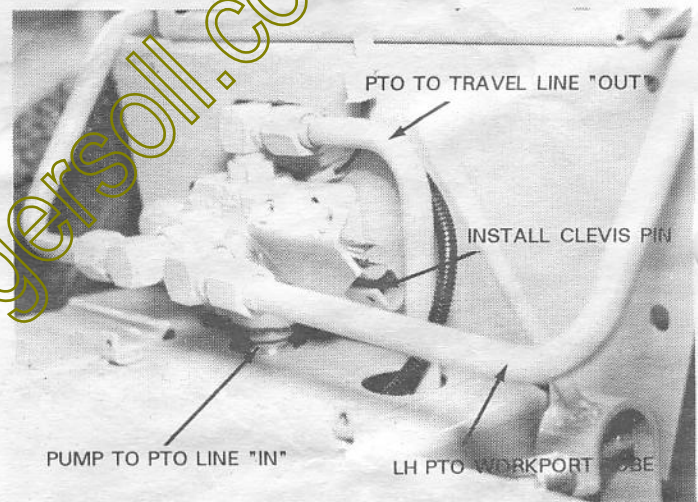
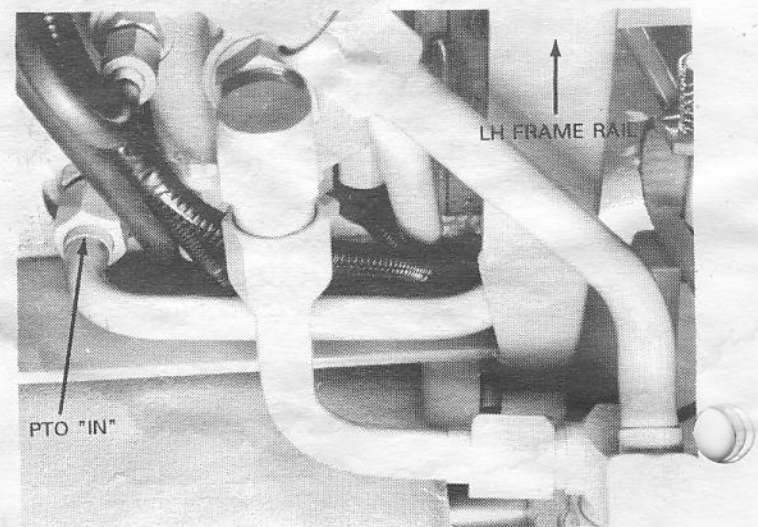

FIG. 9
FIG. 10
- a. Install the clevis pin (3) with cotter pin (4) in the rear hole of valve bracket FIG. 9.
3. Install the metal tube (5) which will be connected from the rubber pump line to the PTO valve "IN" port. Position the tube from the underside of the tractor as shown in FIG. 10. The metal tube will follow the left inside tractor frame rail and project up through the right hole in the top of the tractor frame. See FIG. 9.
a. Install the metal tube on the "IN" side of the PTO valve as shown in FIG. 9. (NOTE: Do not tighten at this time.)
b. Install the 90 degree (6) male 7/8 X 14 fitting on the pump line and metal tube to the PTO valve.
c. Position the metal tube along the left frame rail and note the position. See FIG. 10.
5. Install metal tube (8) that will be connected from the PTO valve "OUT" side to the travel valve "IN" side. See FIG. 9. Position the tube through the left hole in the tractor frame as shown in FIG. 9. The metal tube will be routed forward towards the travel valve.
a. Secure the metal tube to the "OUT" side of the PTO valve as shown in FIG. 9. (Note: Do not tighten at this time.)
6. Install the left hand work port line (10) to the left hand PTO work port shown in FIG. 9. The pipe should run parallel with the rear fender below the seat. See FIG. 13. (NOTE: Do not tighten at this time.)